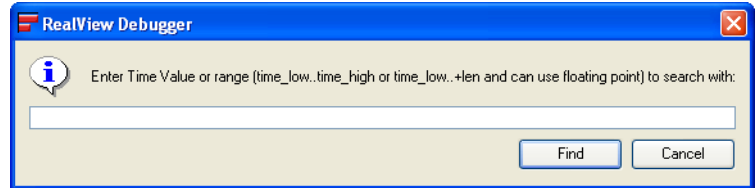

Figure 9-8 Finding a time match
1. Select **Find Timestamp...** from the **Find** menu to display the Prompt dialog box. Figure 9-8 shows an example: